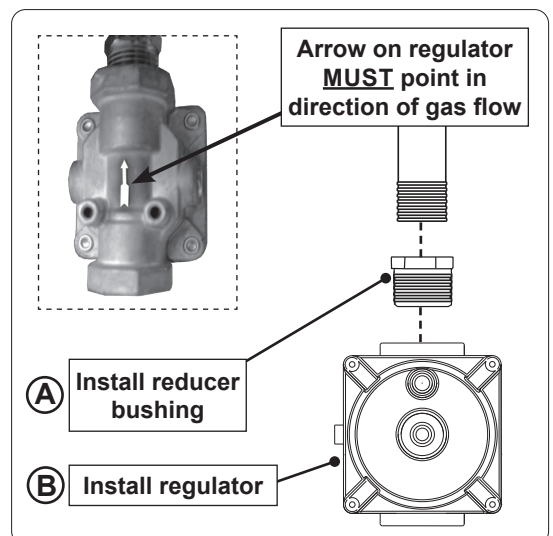

Fig. 2-2 Install bushing and regulator
- Attach the reducer bushing (Fig. 2-2, A) to the manifold pipe using a pipe joint compound that is resistant to all gasses. Tighten securely.
- Attach the regulator (Fig. 2-2, B) to the bushing using a pipe joint compound that is resistant to all gasses. Tighten securely.